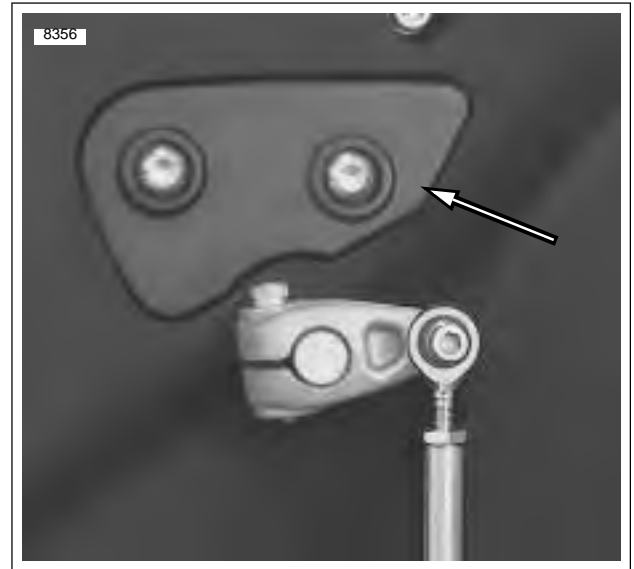

Figure 1-27. Primary Chain Inspection Cover
See Figure 1-27. Measure primary chain tension through the inspection cover opening. Adjust primary chains not meeting vertical free play specifications.
1. See Figure 1-27. Remove two fasteners with captive washers and primary chain inspection cover with gasket from primary cover.
4. See Figure 1-27. Install primary chain inspection cover and **new** gasket to primary cover using two fasteners with captive washers. Tighten fasteners to 40-60 in-lbs (5-7 Nm).